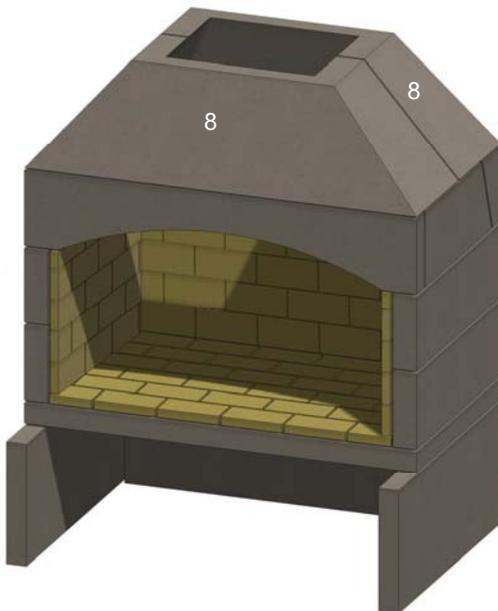

Figure 21. Throat Pieces
M. Install the tapered front and rear throat pieces (8). See Figure 21.